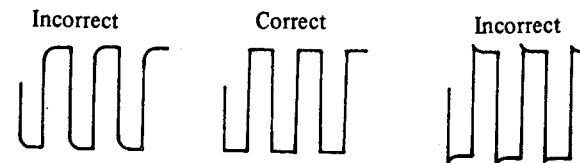
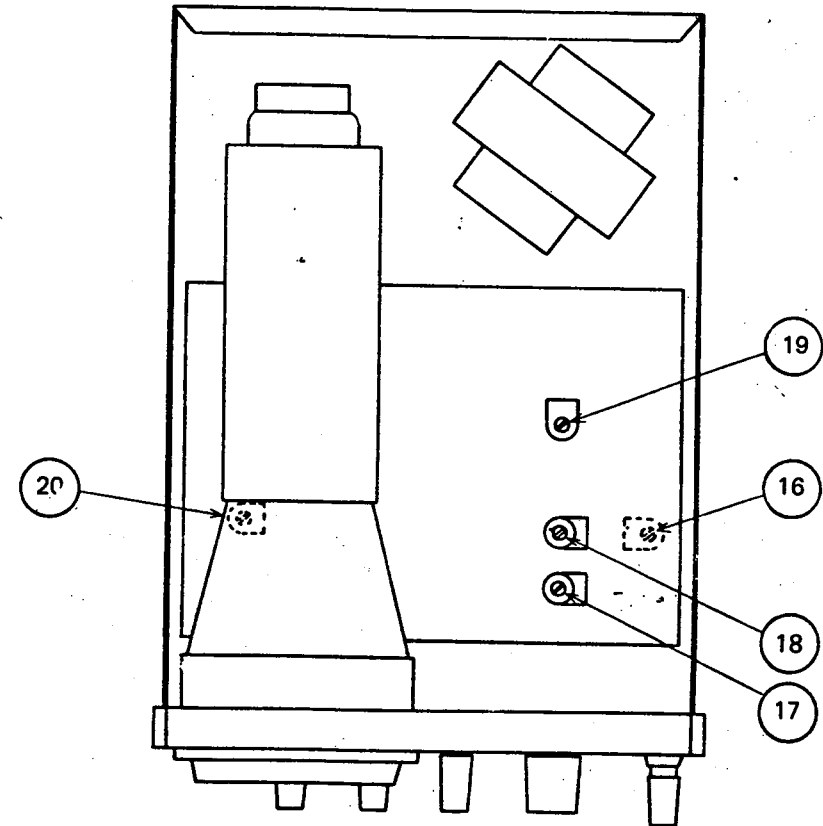

FIG. 6
Fig. 9
4 Adjustment of DC balance (see Fig. 9)
5 Frequency compensation for V GAIN ATT switch (see Fig. 9)
Adjust the trimmer capacitor (17 in Fig 9) to give the correct display as shown in Fig. 6.
6 Adjustment of high frequency response compensation of the Vertical Amplifier (see Fig. 9)
Adjust the control (19) (see Fig. 6) to minimise the overshoot and undershoot.
7 Adjustment of Horizontal DC balance (see Fig. 9)
Adjust the control (20) (see Fig. 9) so that the spot on the CRT screen does not move when rotating the SWEEP VARI. control through its range.